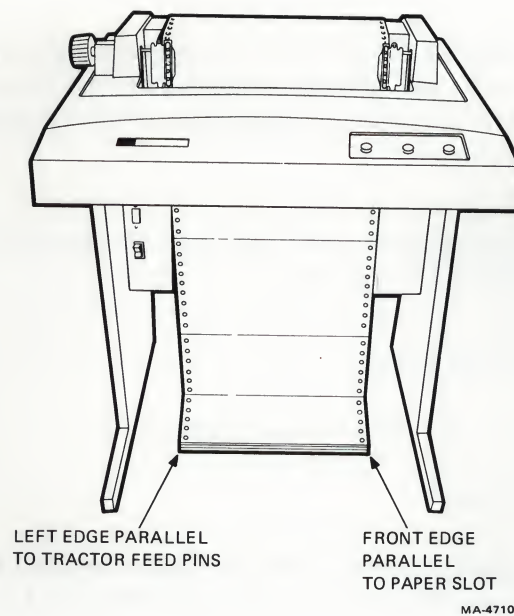

Figure 1-16 Loading Paper Forms
5. Place the paper/forms on the floor between the legs of the LA120-RA. The leading edge of the paper must be parallel to the paper slot with the left edge of the paper in line with the left tractor (Figure 1-16).